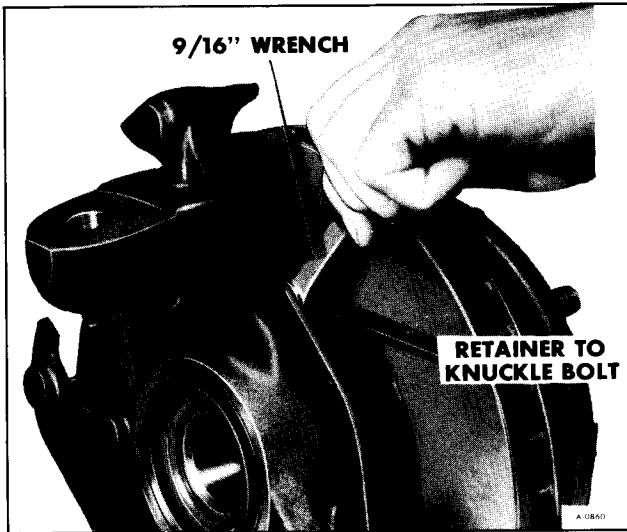

Figure 7—Retainer Bolt Removal
8. Loosen uniformly and remove the three bolts securing the retainer to the knuckle (figure 7).